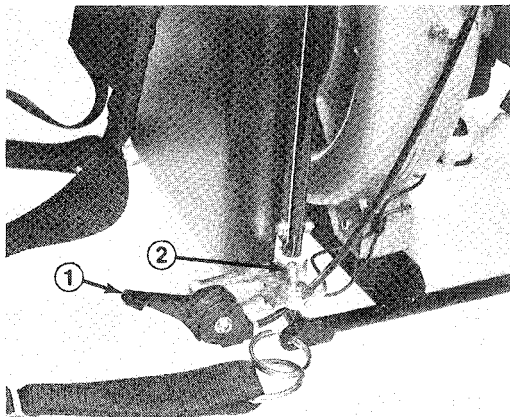

Figure 4
3. Vary engine RPM by operating the throttle lever (Fig. 4). Idle speed, if desired for blowing leaves from a lawn or flower bed, is achieved by moving the throttle lever to the idle position. Medium to high speed, used to clean grass, wet leaves, etc. from walks, patios and drives, is achieved by moving the lever midway between the closed and full throttle positions.